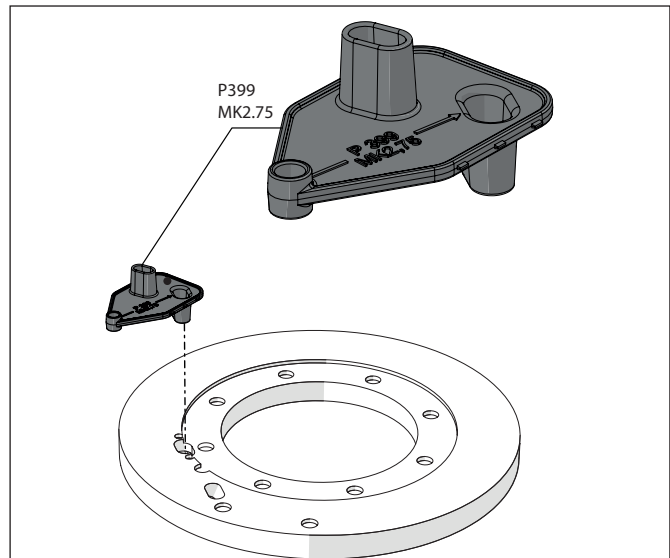

Fig. 5: Alignment Tool Installation
- Insert the alignment tool into the igniter opening as shown in Fig. 5.